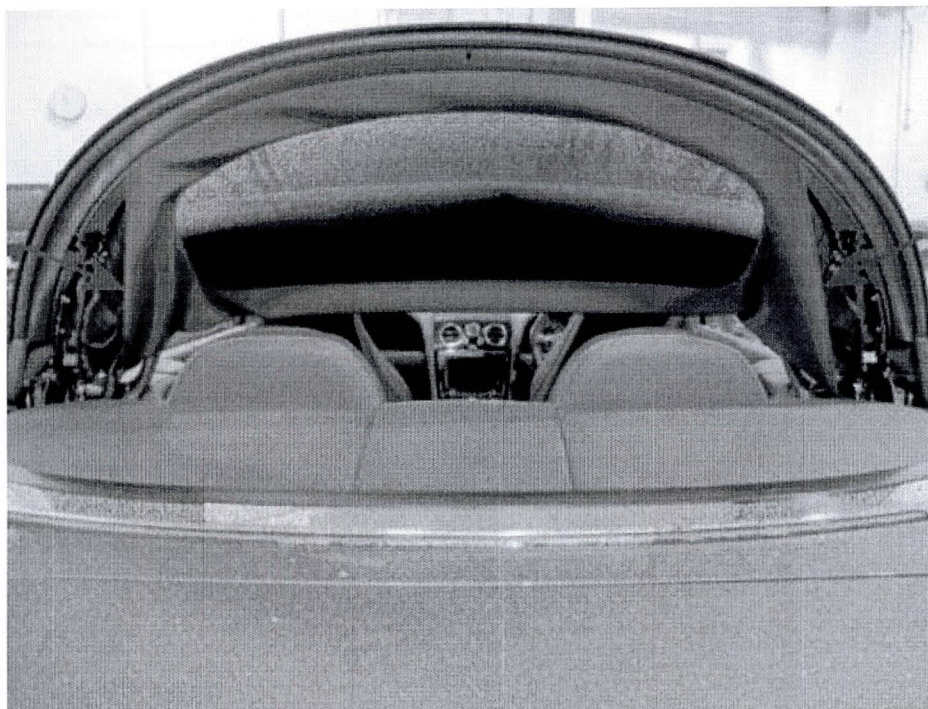

Figure 1
Two terminals located one each side of the heated rear screen can produce a high frequency rattle. On this occurrence the following procedure should be performed. (see Figure 1)
Note: To carry out the following procedures, the power operated roof assembly will have to be positioned partially open in a transient state. With the ignition on any transient roof position will only be maintained for 10 minutes after which a warning will sound prior to the roof assembly gradually folding down as the hydraulic pressure decays. Therefore to enable the following operations to be carried out the roof has to be secured using 2 ratchet straps linked together (part number T10038) (see Figure 1)
1. With the ignition on, use the power operated roof open and close buttons to position the roof partially open. Figure 1 shows the optimum position to enable this procedure to be performed. It is recommended that the roof position is maintained primarily with the ignition still on, and secured, for the operators safety, using a pair of tensioning straps (T10038) linked together.
2. Referencing figure 1 and 2 locate the heated rear screen electrical connections